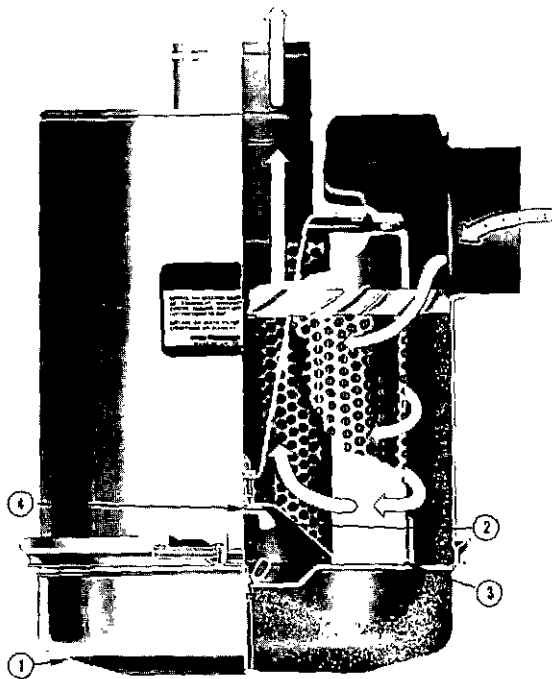
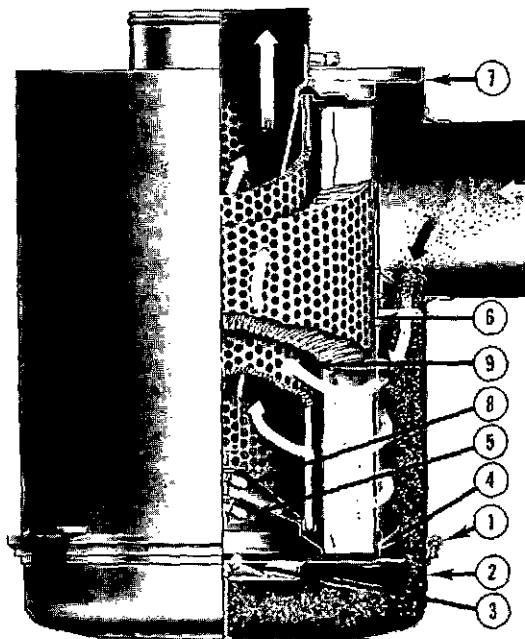

Fig. 2-15 (V11005) Air cleaner — heavy duty
Fig. 2-16 (N11030) Air cleaner — heavy duty dual element
Heavy duty air cleaners (single and dual types) combine centrifugal cleaning with element filtering, Figs. 2-15 and 2-16, before air enters engines.
1. Loosen wing bolt, remove band securing dust pan (1, Fig. 2-15), (2, Fig. 2-16).
2. Loosen wing nut (2, Fig. 2-15 and 3, Fig. 2-16), remove dust shield (3, Fig. 2-15), (4, Fig. 2-16), from dust pan (1, Fig. 2-15), (2, Fig. 2-16), clean dust pan and shield.
3. Remove wing nut (2, Fig. 2-15), (5, Fig. 2-16) securing air cleaner primary element (6, Fig. 2-16) in air cleaner housing, inspect rubber sealing washer on wing nut (4, Fig. 2-15), (5, Fig. 2-16).
a. Check air restriction indicator, if air restriction is excessive, disassemble air cleaner, remove wing nut (8, Fig. 2-16), and replace safety element (9).